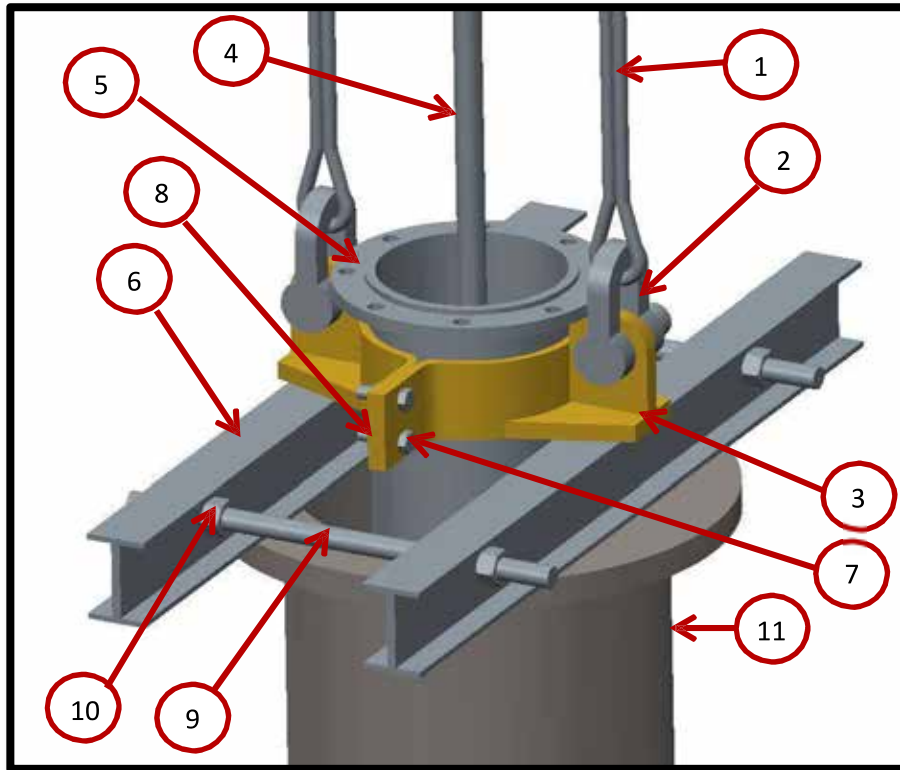

Figure 1 – Flanged column of VIT (Vertical Turbine) pump
Throughout this manual the displayed names in Figures 1 and 2 (below) will be used frequently. This page is to be used as a reference for the reader/operator, and the nomenclature listed below will be used throughout the rest of this manual. Parts will be called out by the name followed by a number in parenthesis i.e. (XX).